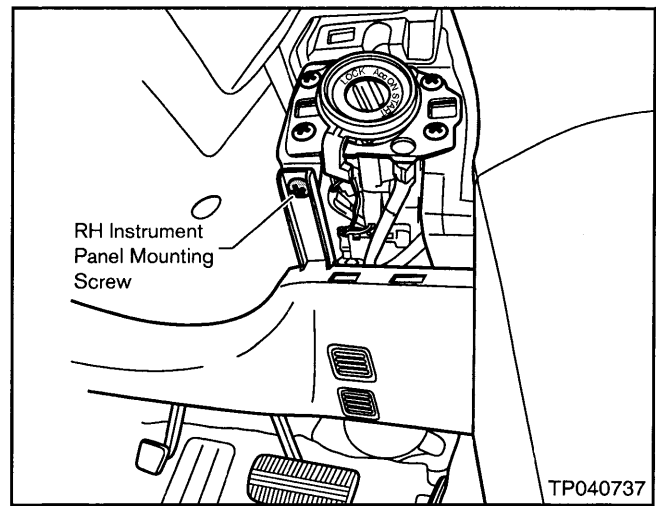

Figure 3
- c. Remove the RH Instrument Panel Mounting Screw (see Figure 3).